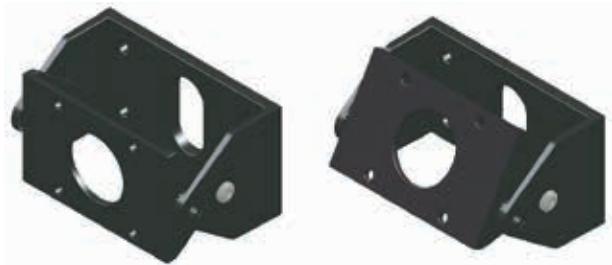

FIGURE 3-4
- BRACKET MOUNT - The optional Mounting Bracket (Part No. 439564) is constructed of durable high-strength glass-filled nylon material. The pivot and secure feature accommodates easy operator visual identification and access to the CHECKFIRE 110 Control Module for status indications and manual operation. See Figure 3-4.